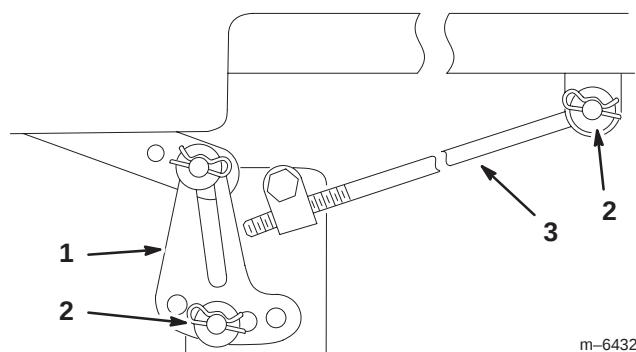

Figure 46
Note: Before removing the mower, make a note for which holes are used in the leveling brackets (Fig. 46).
5. Remove the hairpin cotter and washer from the adjusting rod (Fig. 46) on each side of the mower.
6. Remove the hairpin cotter and washer at the mower leveling brackets (Fig. 46) on each side of the mower. Note which hole the leveling bracket is mounted in for future installation. Slide the brackets off of the mounting pin.
5. Attach the adjusting rod to the tractor with the washer and hairpin cotter (Fig. 46) on each side of the mower.
6. Slide the leveling brackets onto the mounting pins and secure them with the washers and hairpin cottes (Fig. 46).